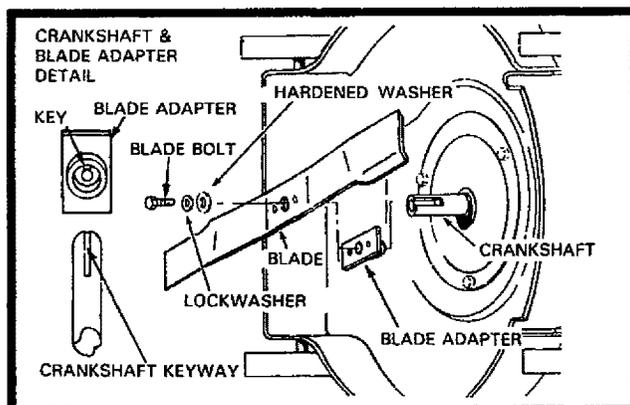

FIG. 10
- Remove blade and attaching hardware (bolt, lockwasher and hardened washer) (See Fig. 10).
NOTE: Be sure the word TOP (stamped on the blade) is toward the engine (See Fig. 10).
- Install the blade bolt with the lockwasher and hardened washer into blade adapter and crankshaft (See Fig. 10).